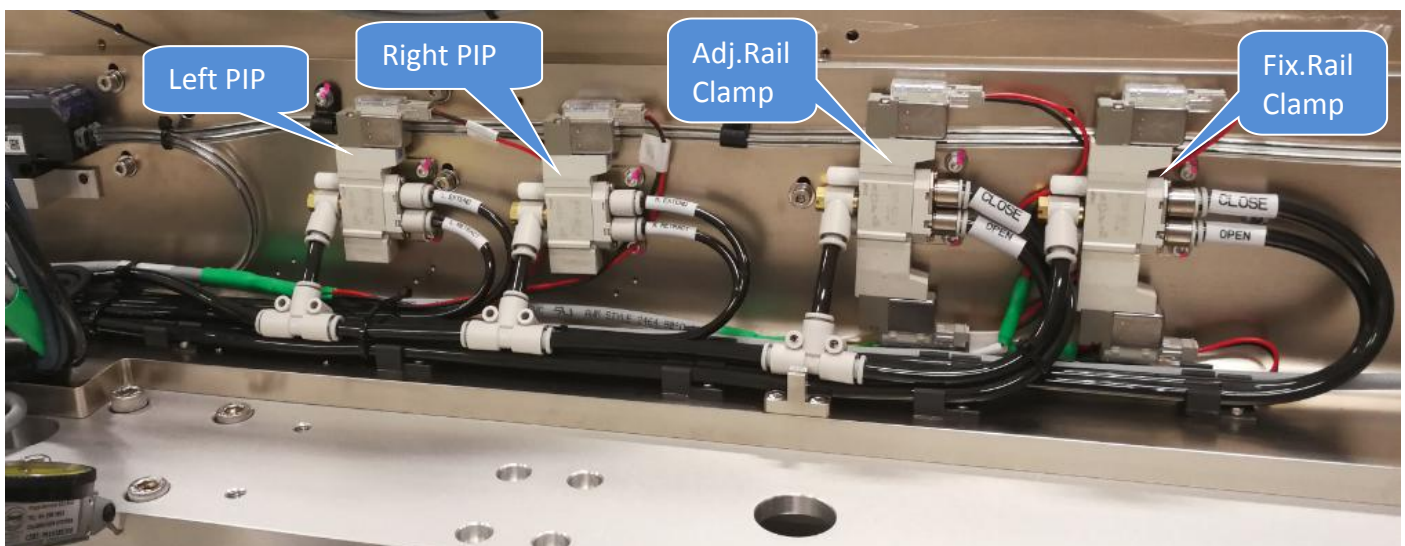

Figure 2 Fix Rail Clamper Pneumatic Valve Location
5. Identify Fix Rail Clamper Pneumatic Valve Location by refer to below Figure 2